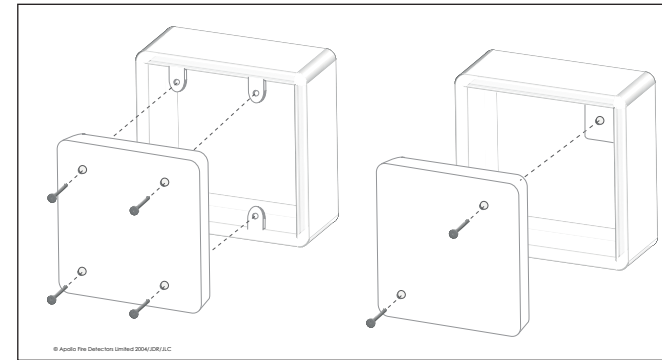

Fig. 3- Mounting the XP95A Switch Monitors (55000-805, 806)
- Drill holes in the fascia plate corresponding to the holes on the mounting box selected (Fig. 3).